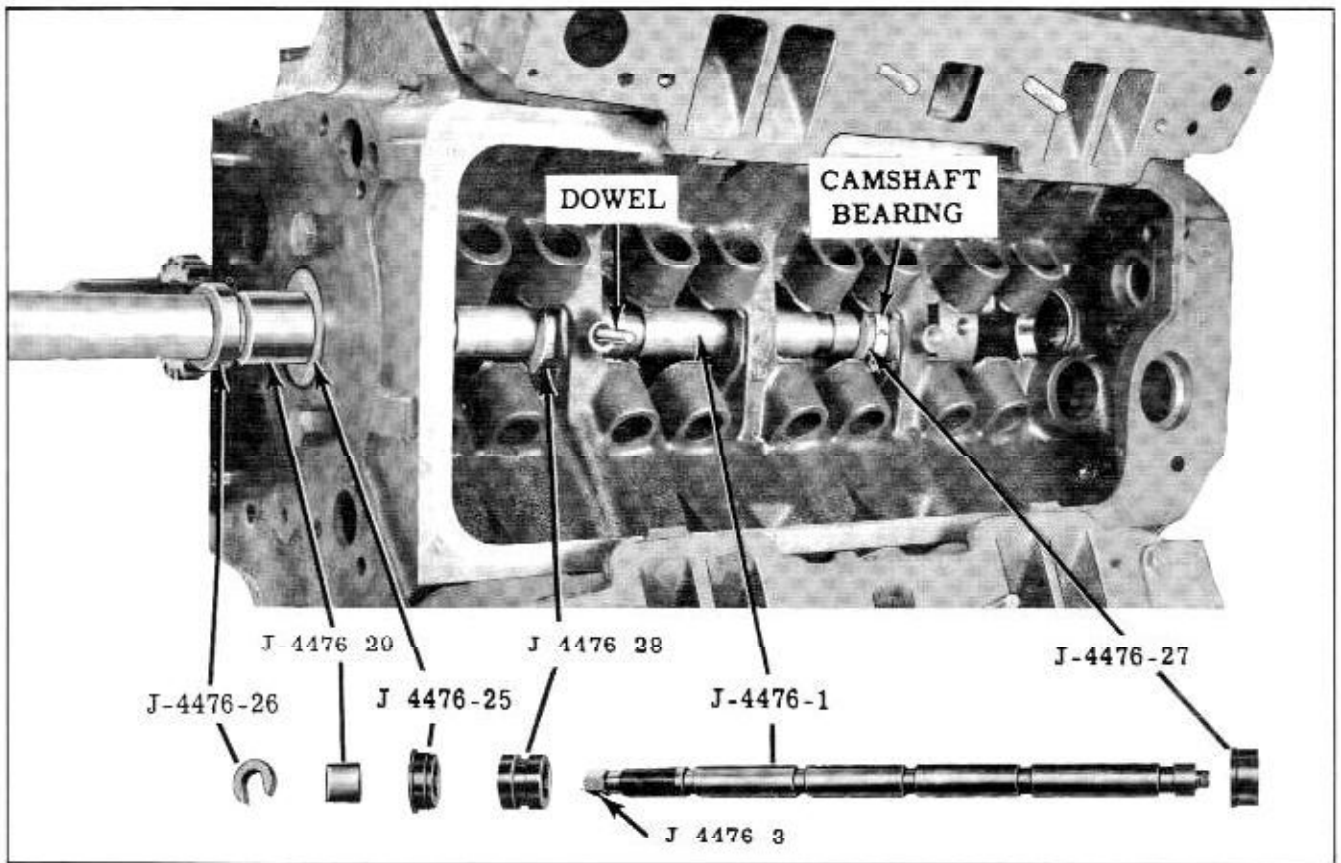

Fig. 8-46 Installing No. 4 Camshaft Bearing (Typical of 3 and 2)
- a. Assemble tools as shown in Fig. 8-46.